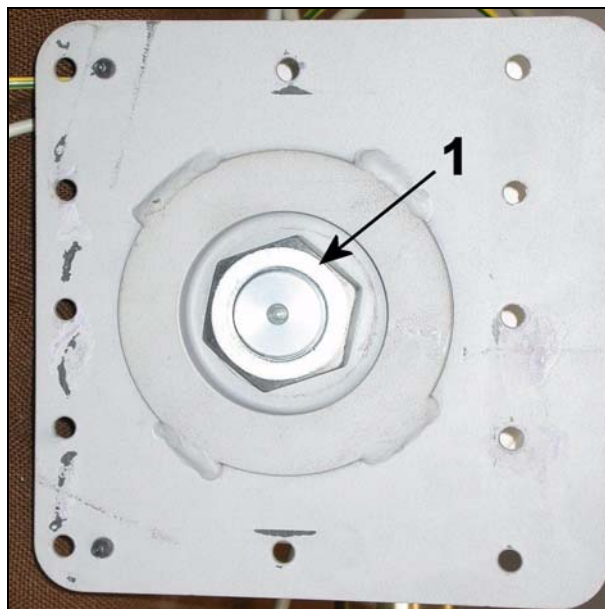

Fig. 22
- Loosen the nut (1/Fig. 22) using a 55 mm socket and a ratchet. Remove nut and lock washer.
- Place the new flange onto the axle of the horizontal carriage, and fasten it using the new lock washer and the nut (1/Fig. 22). Do not change the angulation during this procedure, and avoid rotating the angulation shaft.